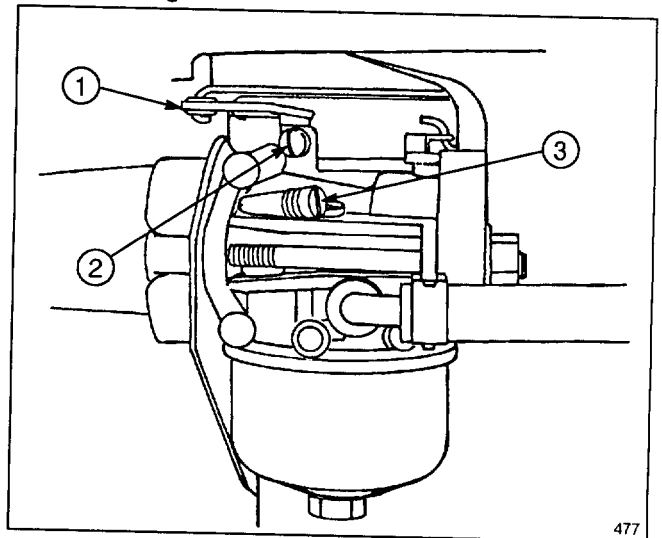

Figure 23
1. Gently turn idle mixture valve clockwise until it **just** closes (Fig. 23). Turning valve in too far may cause damage.
4. Rotate throttle (Fig. 23) counterclockwise and hold against idle speed adjusting screw (Fig. 23) while turning idle speed adjusting screw to obtain 1750 RPM.